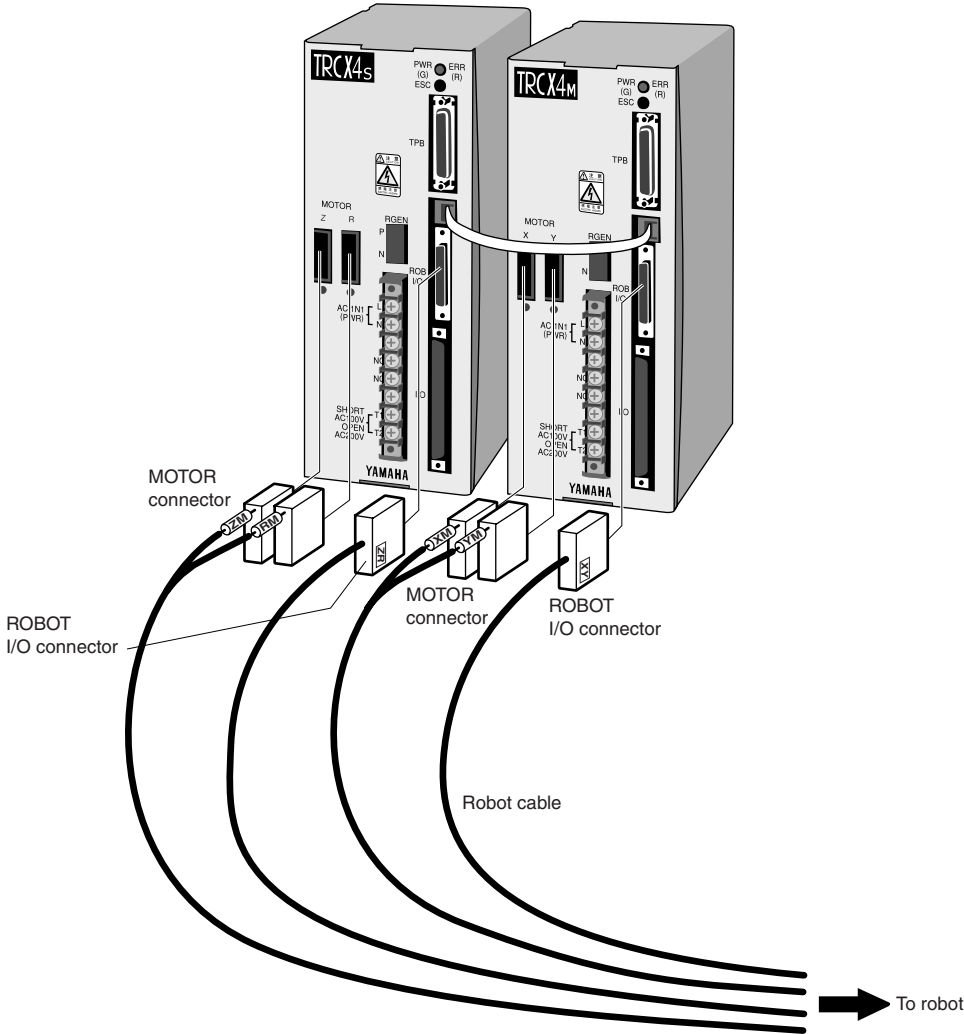

Fig. 3-3 Connection to TRCX controller (4-axis model)
- 2) While referring to Table 3-3 and Fig.3-3, securely insert the motor connector into the correct position on the controller until a click is heard.
- 3) While referring to Table 3-3 and Fig.3-3, insert the robot I/O cable into the correct position on the controller.